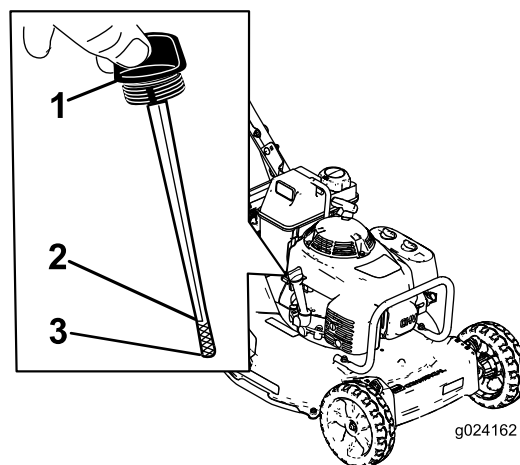

Figure 6
Before each use, ensure that the oil level is between the lower-limit and upper-limit marks on the dipstick (Figure 6).
2. Clean around the dipstick (Figure 6).